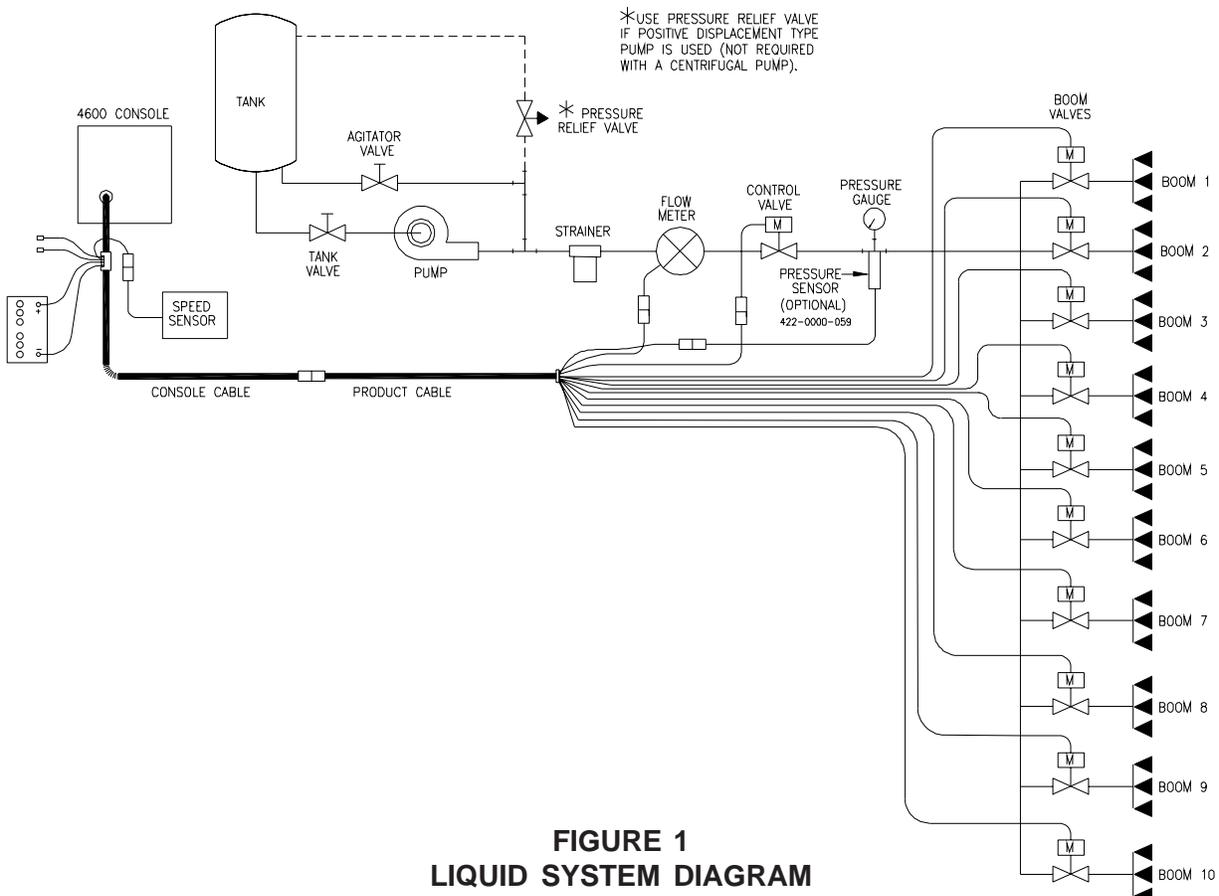

FIGURE 1
- 1) Mount Flow Meter in the area of the boom valves per Figure 1. All flow through Flow Meter must go to booms only, i.e., no return line to tank or pump after Flow Meter.
- 2) Connect the Product Cable connectors to boom valves, Flow Meter, and motorized Control Valve (Reference Figure 1). NOTE: Black wire to boom valve #1, Brown wire to boom valve #2, Blue wire to boom valve #3, Black/White wire to boom valve #4, Brown/White wire to boom valve #5, Blue/Wht wire to boom valve #6, White/Black wire to boom valve #7, White/Brown wire to boom valve #8, White/Blue wire to boom valve #9 and Pink wire to boom valve #10.